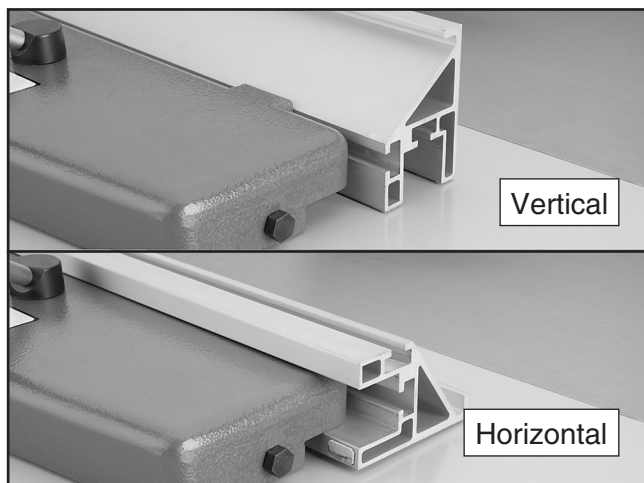

Figure 65. Rip fence positions.
3. Place the fence in the vertical position for larger workpieces, or in the horizontal position for angled cuts and for small workpieces (see **Figure 65**).